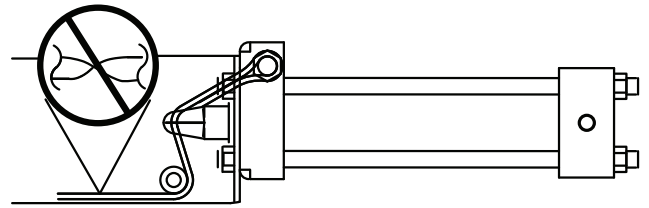

Figure 10
1. Make sure web tethers are routed per diagram on S4S, and not twisted, pinched or damaged before unit is torqued. **See Figure 10.**